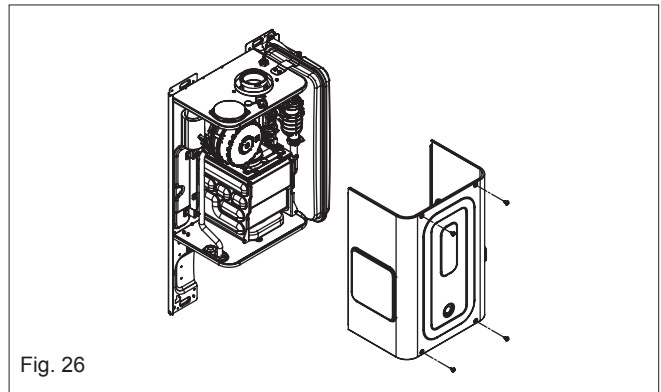

Fig. 26
6.4.1 AIR BOX FRONT COVER REMOVAL (fig. 26)